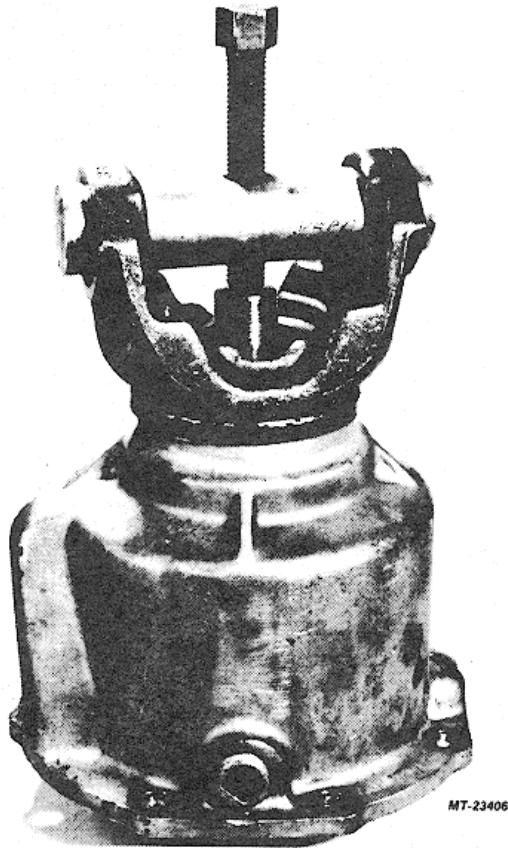

Fig. 7. Removing Inter-Axle Differential From Cover
3. Use puller tool (Fig. 7) or press and remove inter-axle diff assembly from cover (nose cone) and input flange.